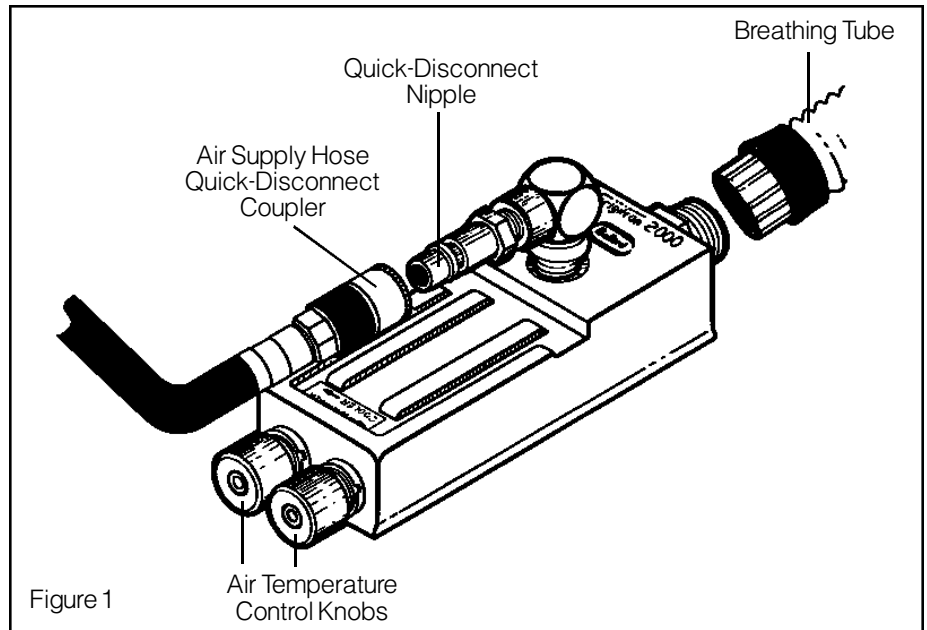

Figure 1
- To obtain cooler air, turn either or both of the air temperature control knobs clockwise (Figure 1).